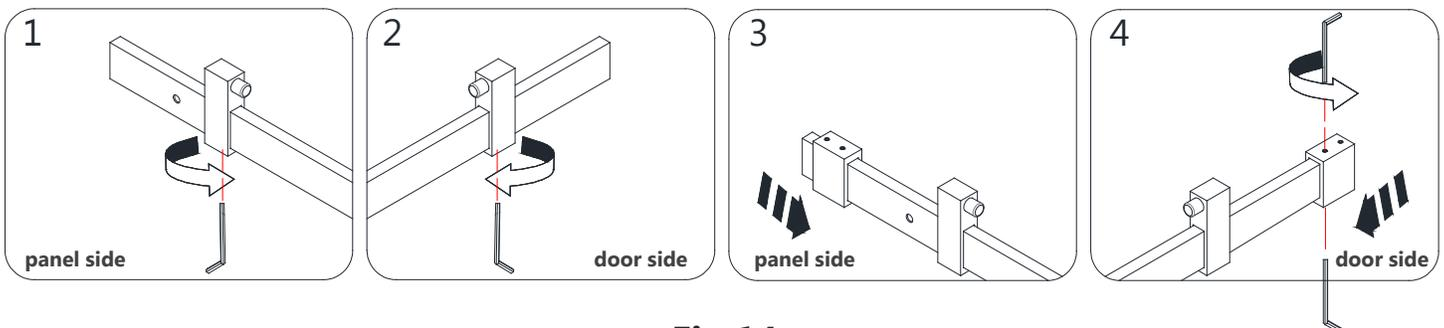

**Fig 13**
**13.** Apply silicone into the **U-Channel (#01)**. Slide the **Stationary Glass (#02)** firmly into the installed **U-Channel (#01)**. (**Fig 13**)